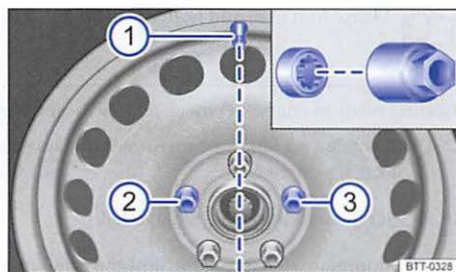

Fig. 183 Changing a wheel: Tire valve (1) and installation points for the anti-theft wheel bolt (2) or (3).
Before attaching the wheel cover, the anti-theft wheel bolt must be installed at point ⇒ page 332, fig. 183 ② or ③. Otherwise, the wheel cover cannot be installed.
Make sure that the valve cut-out is aligned with the valve ⇒ page 332, fig. 183 ①, and press the wheel cover onto the wheel rim. Make sure that the wheel cover is latched onto the rim along the entire circumference. ◀
On a wheel with a wheel cover, the anti-theft wheel bolt must be installed at points $\Rightarrow$ fig. 183 (2) or (3). Otherwise, the wheel cover cannot be installed.
- Place the anti-theft wheel bolt in position $\Rightarrow$ page 332, fig. 183  or . Hand tighten it using the adapter by turning clockwise.